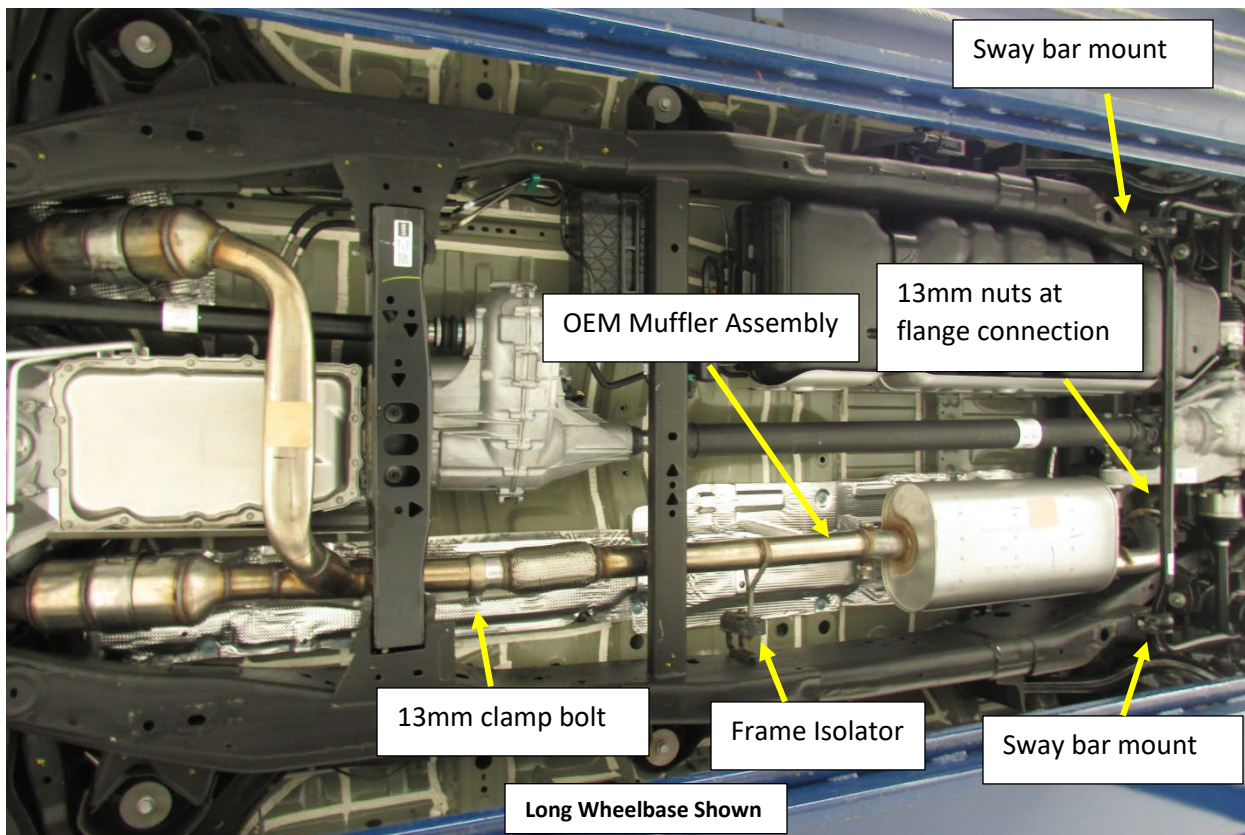

Figure.1
1. Remove the 2x bolts at each sway bar mount on the frame rail and allow the sway bar to swing down . This will provide additional room to remove the OEM muffler from the vehicle. **Fig.1**
3. Remove the (2x) 13mm nuts at the flange connection to the tail pipe assembly over the rear axle. **Fig.1**